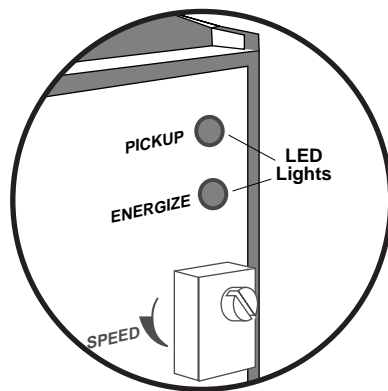

Figure 13
2. Turn the **SPEED ADJUST** pot fully clockwise 20 turns (**Figure 13**).
3. Run the engine at the desired RPM and adjust the **SPEED ADJUST** pot counterclockwise until the **ENERGIZE** LED comes "ON" and the relay has transferred (**Figure 13**).